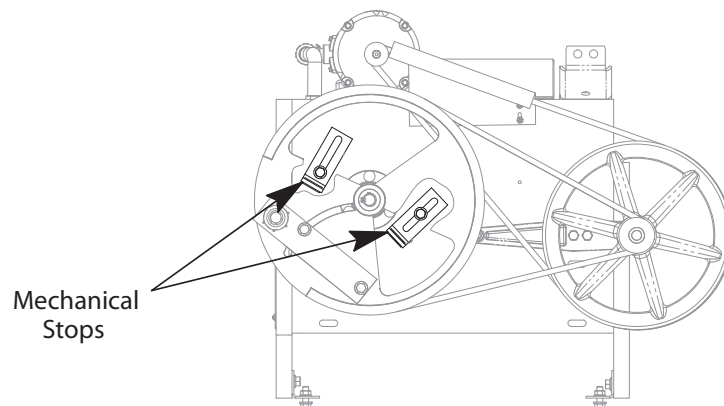

Figure 2 - Drive Sheave Mechanical Stops
5. Loosen the bolts holding the mechanical stops. See Figure 2.
- a. Loosen the three (3) bolts on the idler arm, and loosen the lock nut on the adjustment screw. See Figure 2.